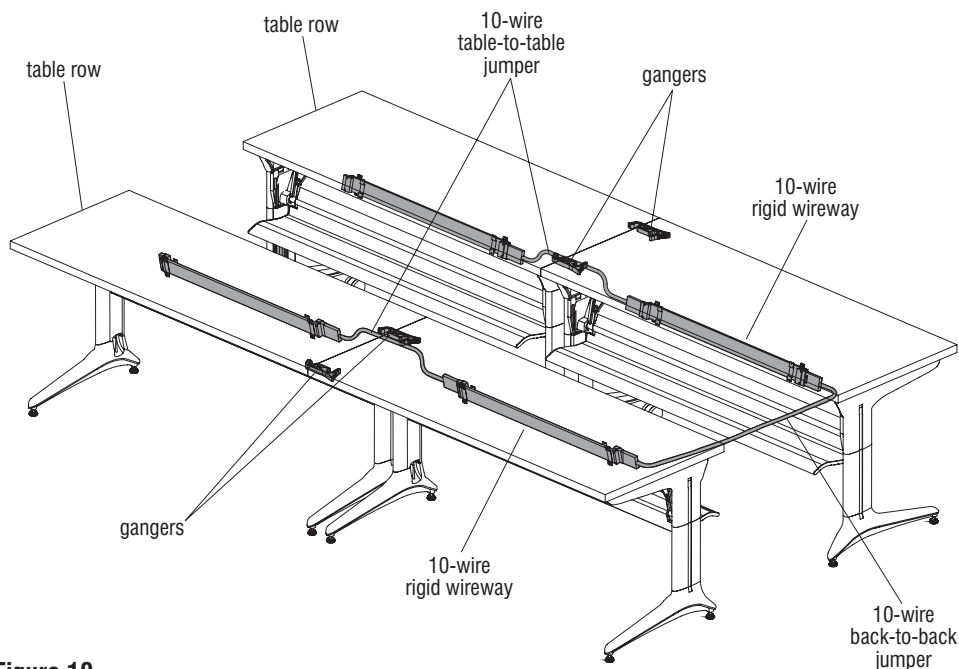

Figure 10
3. If two rows of tables are going to be connected back-to-back, gang the additional tables inline to each of the first two back-to-back tables. Use a ganger or splice plate (See Ganger Assembly and Splice Plate Assembly, page 5), to join the tables, at the opposite end from the jumper connection installed in step 2, forming two back-to-back rows. Then, install 10-wire table-to-table jumpers between each of the new tables in each row to each of the first two tables (See "10-Wire Table-to-Table Jumper Installation", page 11)(Figure 10).
4. Repeat this until all the tables in each row are connected (Figure 10).